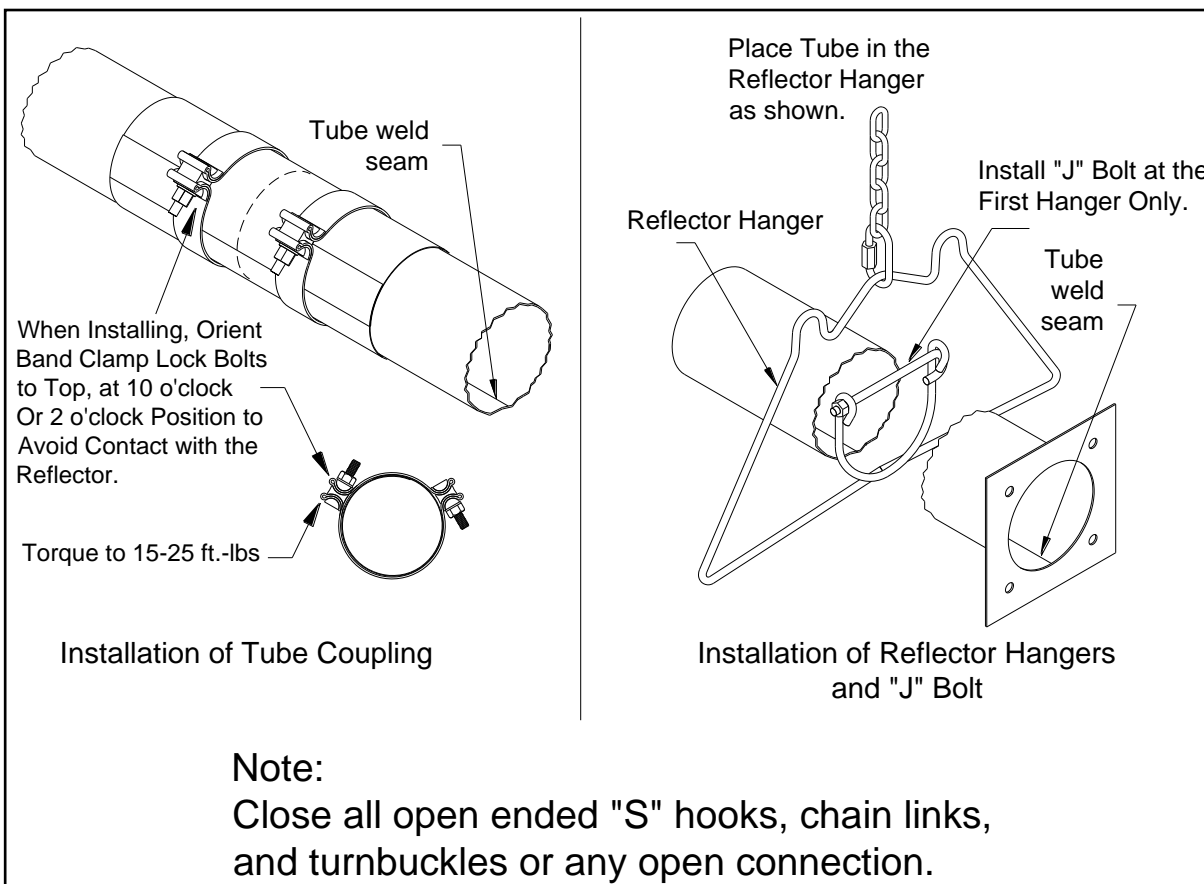

Figure 10: “J” Bolt and Coupling Installations
- Tighten the cradle loops of the first hanger with the “J-Bolt” found in the burner box, to snugly hold the combustion tube from rotating see Figure 10.
Note: In order to obtain smoothly sealed coupling liners, tighten each of the coupling bands progressively and alternately. Tightening one band completely before the other may result in an undesirable wrinkle in the liner (refer to Figure 10). **Be sure not to over torque the coupling. (Torque coupling to 15-25 lbf-ft).**